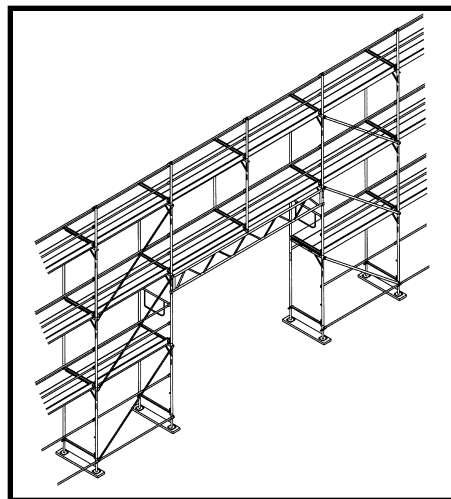

Figure 17
2.6.2.4 Completing the platform: Install the platform planking on the frames above and any required vertical diagonal bracing in both adjacent bays. Install a Girt Spreader (SLGTSP) at the Girt mid-span by clamping it to each Girt center coupling pin post. Temporarily use short cleated scaffold grade plank to install the spreader on the girt coupling pins. Install plank on the star-pins (see Fig. 17). Remove Screw Jacks, Base Supports and rails from below the installed Girts to provide the desired passage opening.